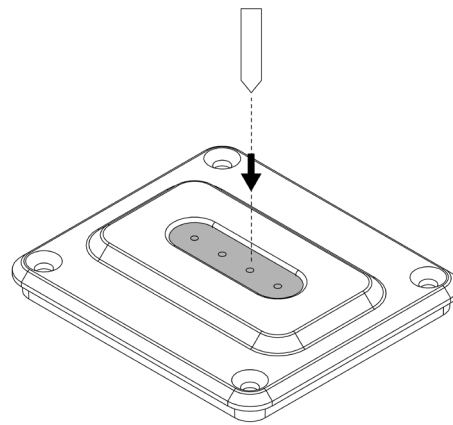

Figure 4
- Stack the grommet assembly on an elevated flat surface (Figure 4) and drill through the selected hole(s) with an electric drill and standard #1 drill bit (Figure 5)